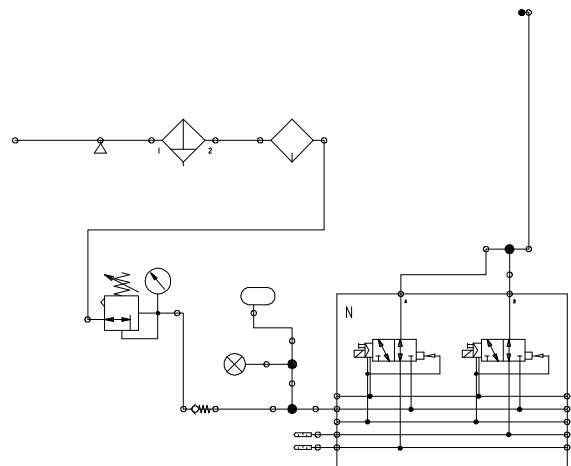

Figure 11
- 2.5.1 Refer to Figure 11 for a typical air system schematic.